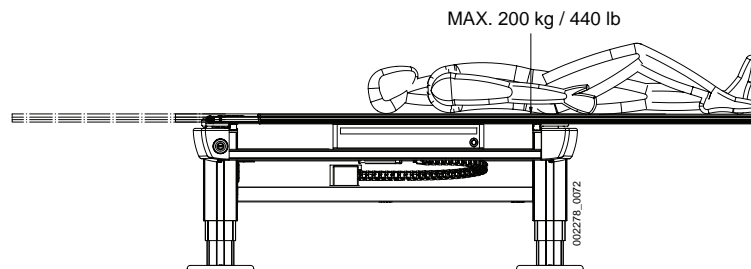

Fig. 2-13 Table top outside table frame
- 200 kg, see Fig. 2-13 Table top outside table frame